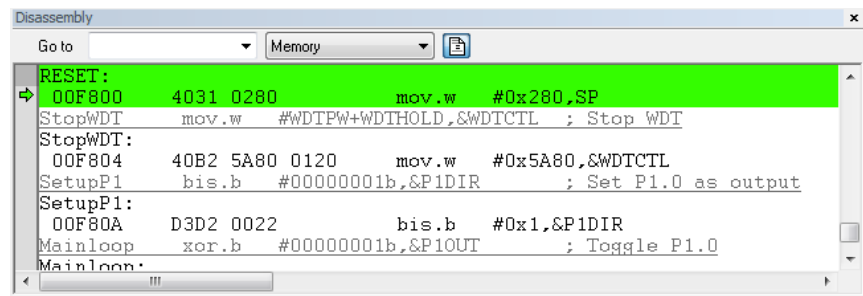

Figure 1.19: Disassembly window.
3. Go to the Disassembly window and type `0xF800`, the address shown in the first `ORG` statement in your program in line 3, in the Go to textbox. You should see something like what is shown in Figure 1.19: